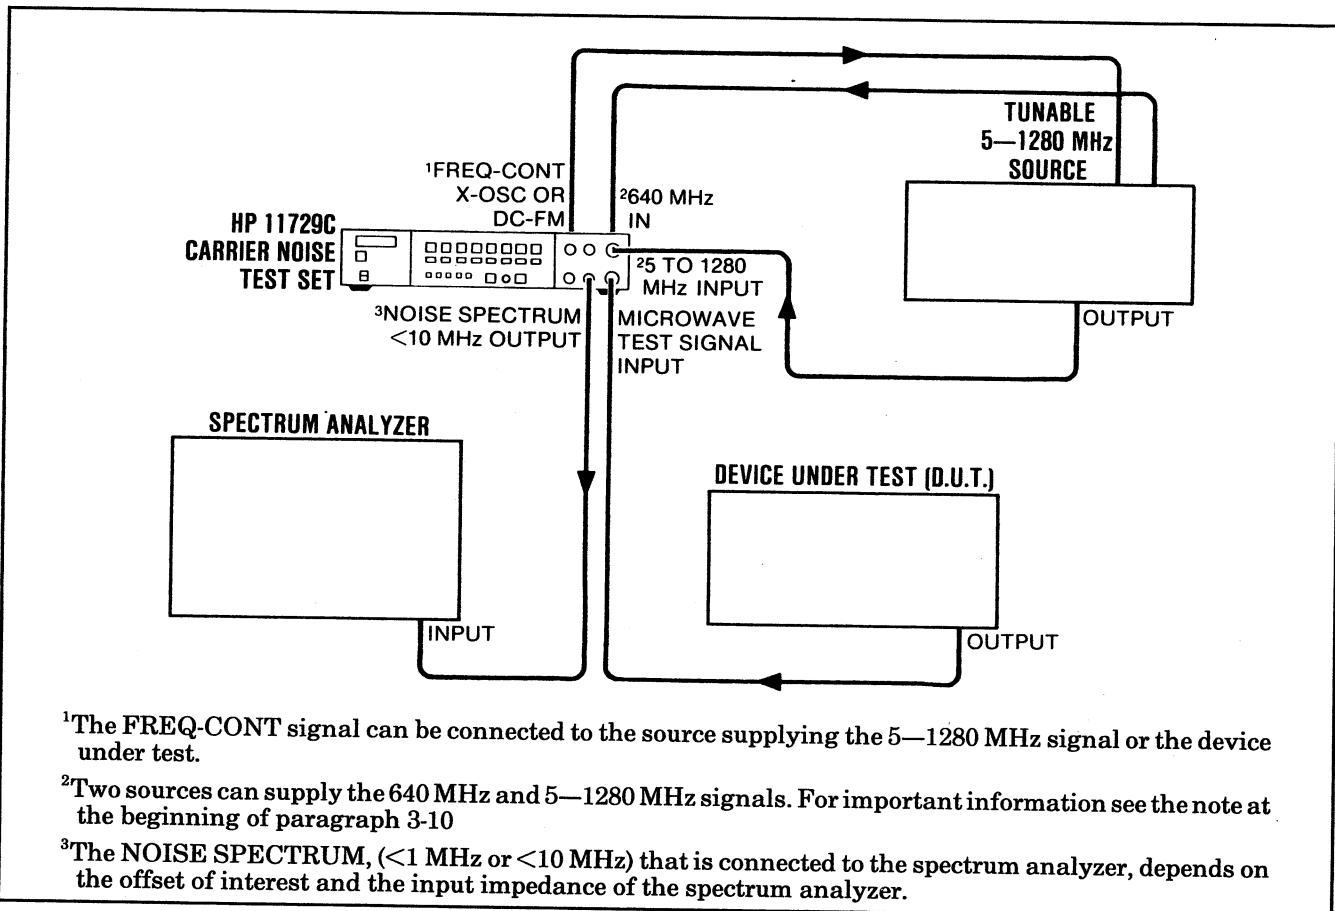

Figure 3-4. Interconnections to the Carrier Noise Test Set when making a Phase Noise Measurement
1. Figure 3-4 shows the interconnections to the Carrier Noise Test Set when making a phase noise measurement.